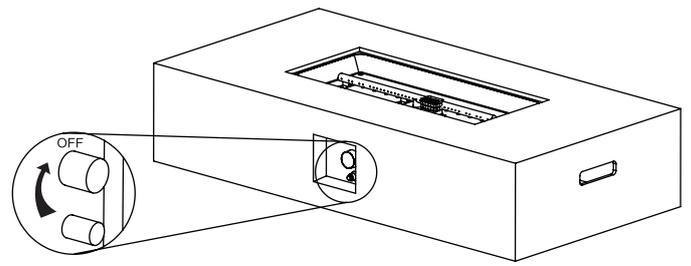

Figure 2
3. Ensure the gas control knob is in the “OFF” position before proceeding (see Figure 2).